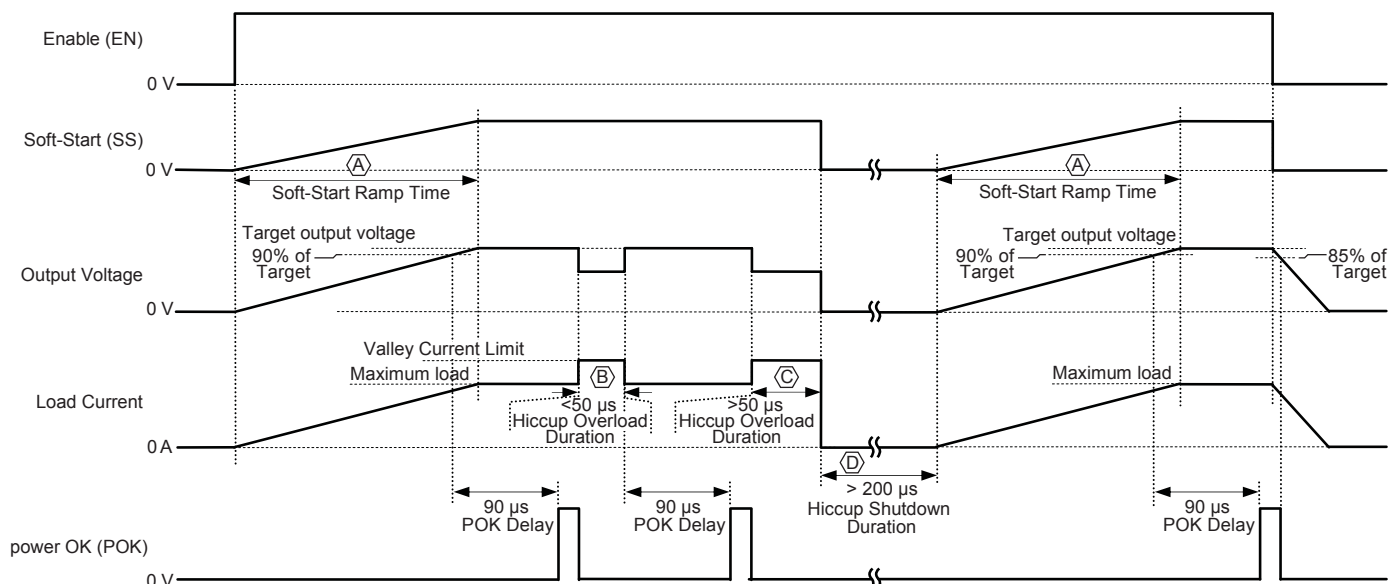

Figure 1. Operation of the soft-start function
The soft-start routine controls the rate of rise of the reference voltage, which in turn controls the FB pin, and thereby the output voltage (V_{OUT}) (see figure 1). This function minimizes the amount of inrush current drawn from the input voltage (V_{IN}) and potential voltage overshoot on the output rail (V_{OUT}).
A soft-start routine is initiated when the enable pin (EN) is high, no overvoltage exists on the output, the thermal protection circuitry is not activated, and V_{IN} is above the undervoltage threshold. Immediately after EN goes high, the soft-start capacitor is charged via an internal 10 μ A source and PWM switching action occurs. During the *Soft-Start Ramp Time* (see A in figure 1), the reference is ramped from 0 up to 0.6 V, and the output voltage (V_{OUT}) tracks the reference voltage. The POK flag is held low until the output voltage reaches 90% (typical) of the target voltage and a delay of 90 μ s (typical) occurs.
drops below 85% (typical) of the target voltage, the POK flag goes low. If the overload occurs for shorter than the *Hiccup Overload Duration* (<50 μ s; B in figure 1), the output will automatically recover to the target level. If the overload occurs for longer than the *Hiccup Overload Duration* (>50 μ s; C in figure 1), the regulator will shut down, the soft-start capacitor will be discharged, and (assuming no other fault conditions exist and the enable pin is still high) the regulator will be delayed by the *Hiccup Shutdown Duration* (D in figure 1).